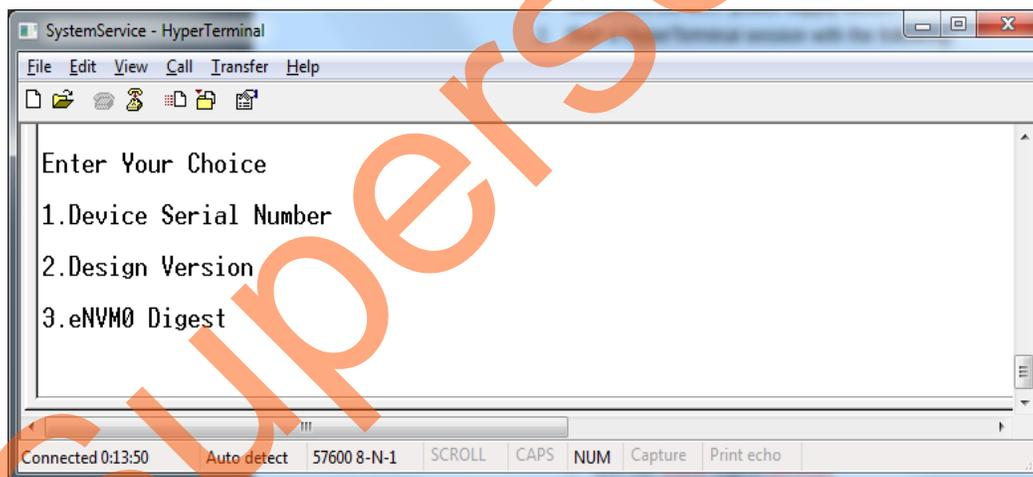

Figure 10 • HyperTerminal Window
- eNVM0 digestRefer to Figure 10.